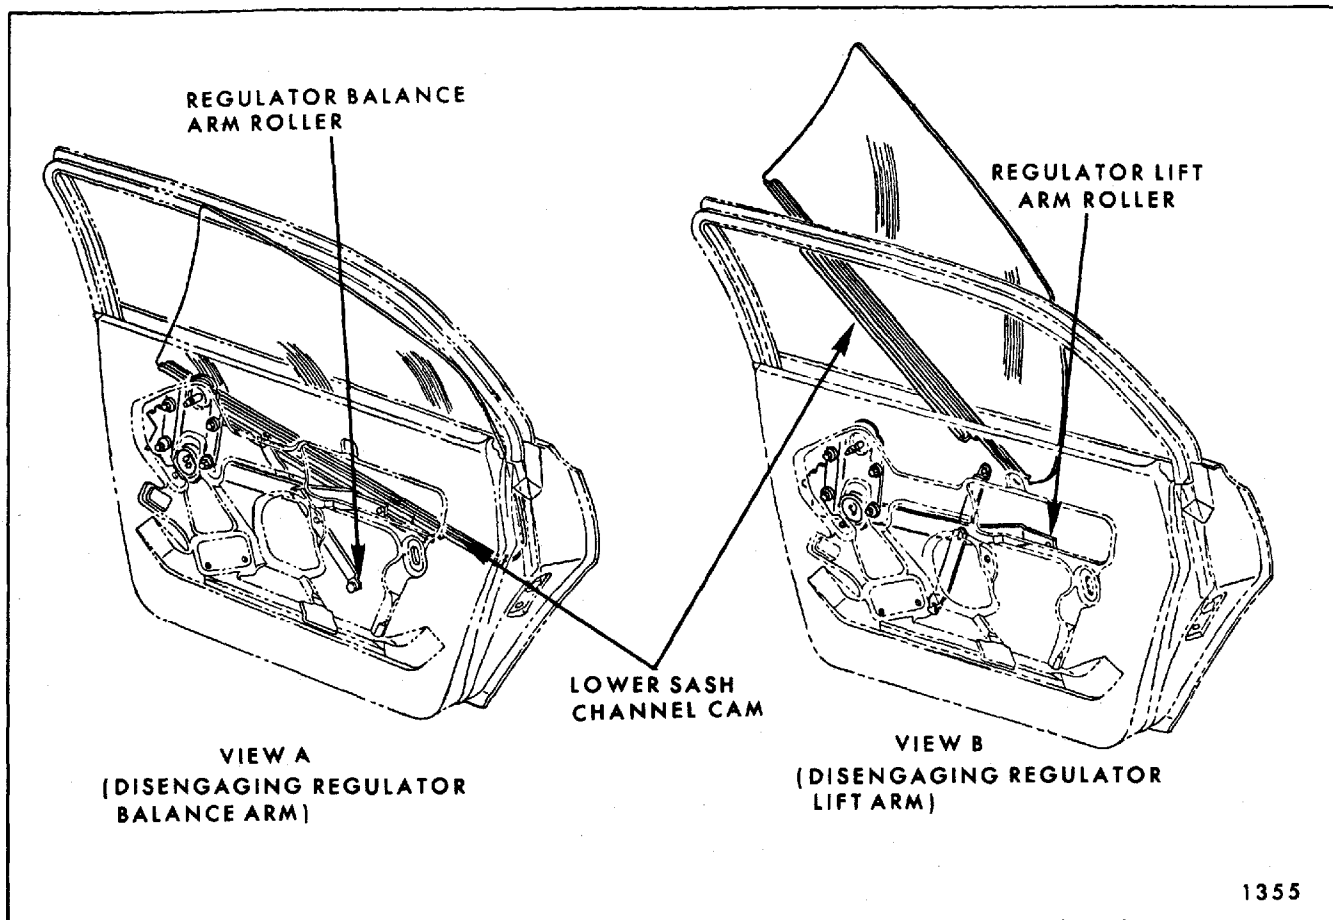

Fig. 7-133—Rear Door Window Removal - "A" Closed Styles
4. Rotate glass upward and forward to disengage lower sash channel cam from regulator lift arm roller and remove door window outboard of door upper frame (See Fig. 7-133 View A and B).